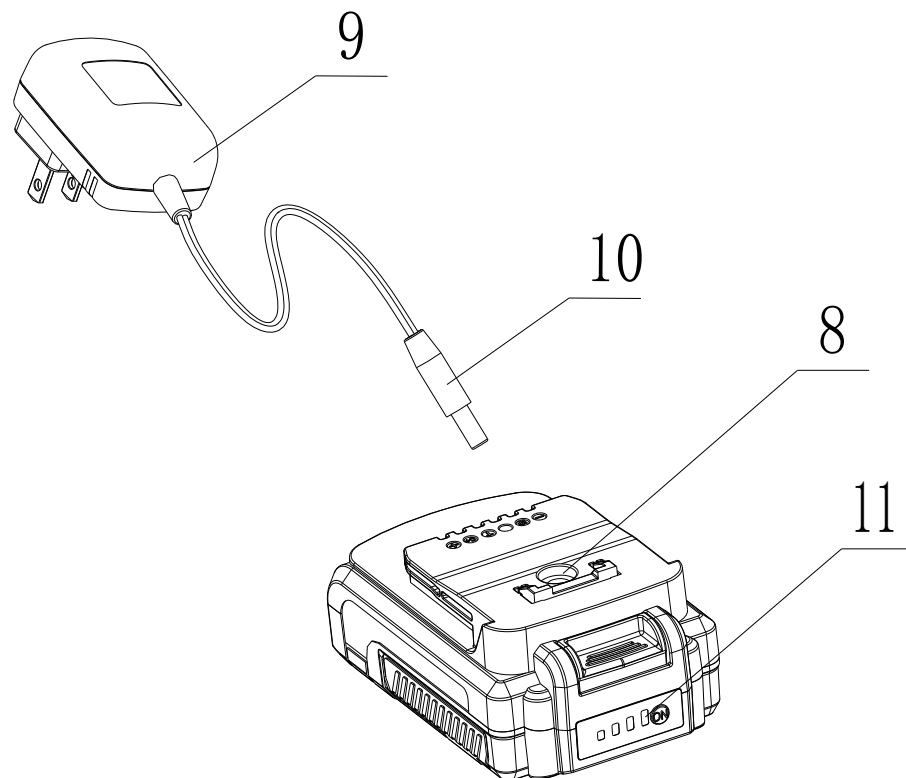

Fig1
● CHARGING THE BATTERY (Fig 1)
- (1) Plug the charger 9 into an appropriate AC power outlet.
- (2) Insert the charger plug 10 into the battery pack socket 8, as shown in Fig 1, making sure the plug is fully inserted in the socket. The four LED 11 start flashing means the battery pack is on charge.